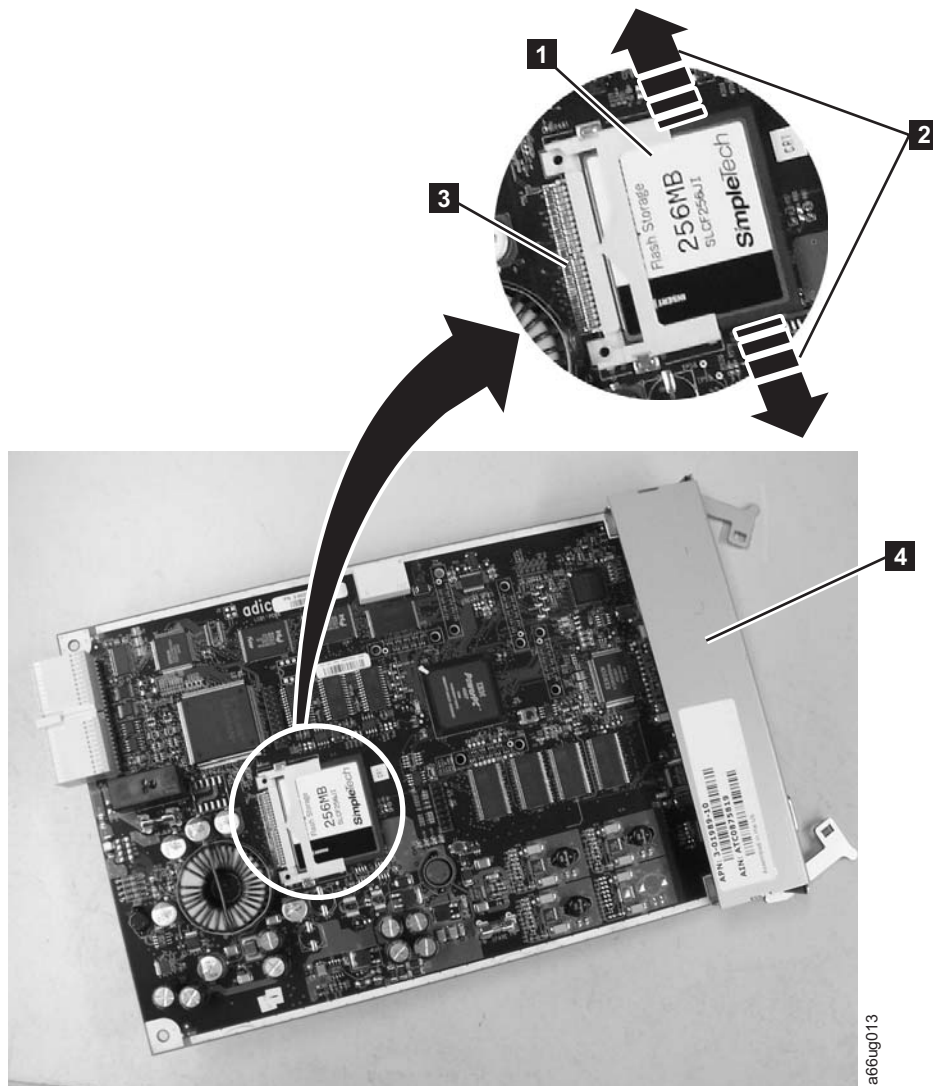

Figure 8-30. Removing the Compact Flash Card from the Library Control Blade
3. Locate the compact flash card component on the LCB board (**1** in Figure 8-30 on page 8-33).
4. Without touching any other components on the LCB firmware board, carefully grasp the compact flash card and wiggle it using a gentle, side-to-side motion (**2** in Figure 8-30 on page 8-33) until the pins on the compact flash card become disconnected from the pins on the LCB board (**3** in Figure 8-30 on page 8-33). Then, slowly slide the compact flash card out of the guide slots.
(See the area enclosed in the white circle in Figure 8-30 on page 8-33 for location).
2. Transfer the compact flash card to the new LCB board with the label up, and pins aligned. Without touching any other components on the LCB board, carefully grasp the compact flash card, and slowly slide it into the guide slots. Continue to push the compact flash card into the guide slots until the pins start to connect. Then hold the LCB board metal connector shield (**4** in Figure 8-30 on page 8-33) with one hand and push the compact flash card into the connector with your other hand. The compact flash card should be firmly seated against the connector (**3** in Figure 8-30 on page 8-33).